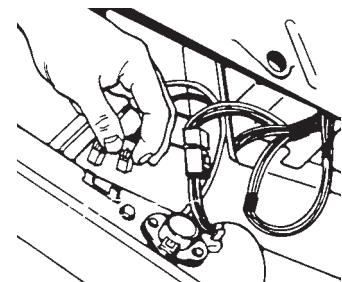

Fig. 4-26
2. Remove the screw securing the thermal fuse to the blower housing and remove the thermal fuse. (Fig. 4-26)